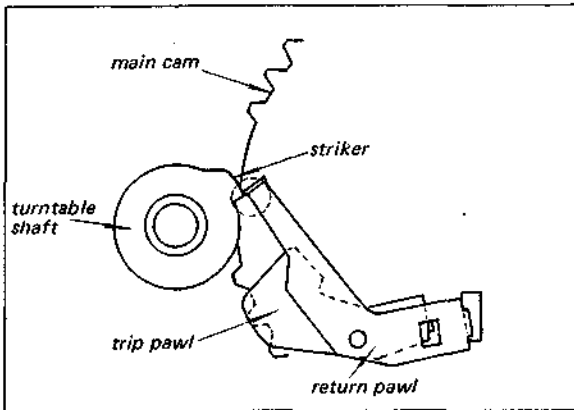
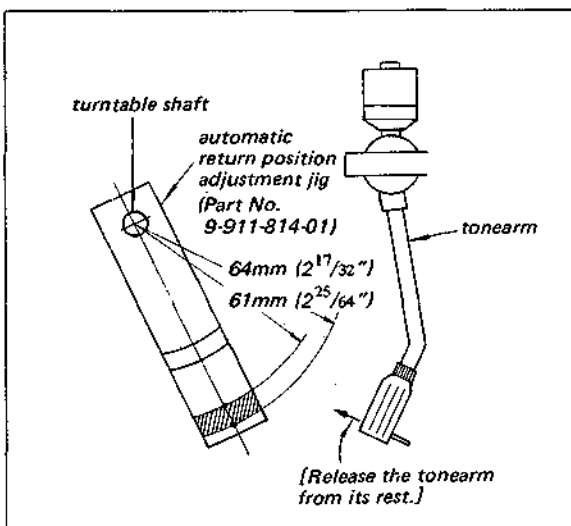
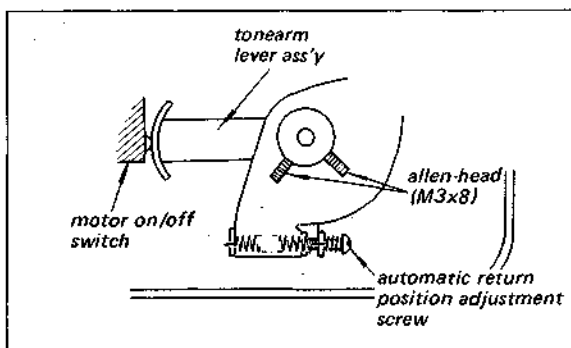

Fig. 3-5. Automatic return position adjustment (2)
Fig. 3-6. Automatic return position adjustment (3)
Fig. 3-7. Automatic return position adjustment (4)
8. When the return pawl touches the striker of turntable shaft as shown in Fig. 3-5, check that the distance between the stylus tip and the center of turntable shaft is 61 mm to 64 mm ($2\frac{25}{64}$ to $2\frac{17}{32}$ ") as shown in Fig. 3-6 by using adjustment jig (Part No. 9-911-814-01). If not, turn the automatic return position adjustment screw as shown in Fig. 3-7.